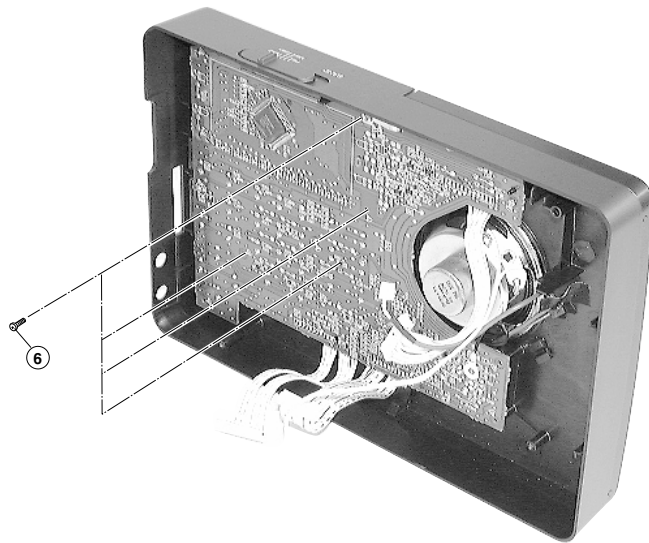

Fig. 5
- (1) Remove 6 screws ⑩ from the Insulator pad.
4. Removal of Main Board (Fig. 5)